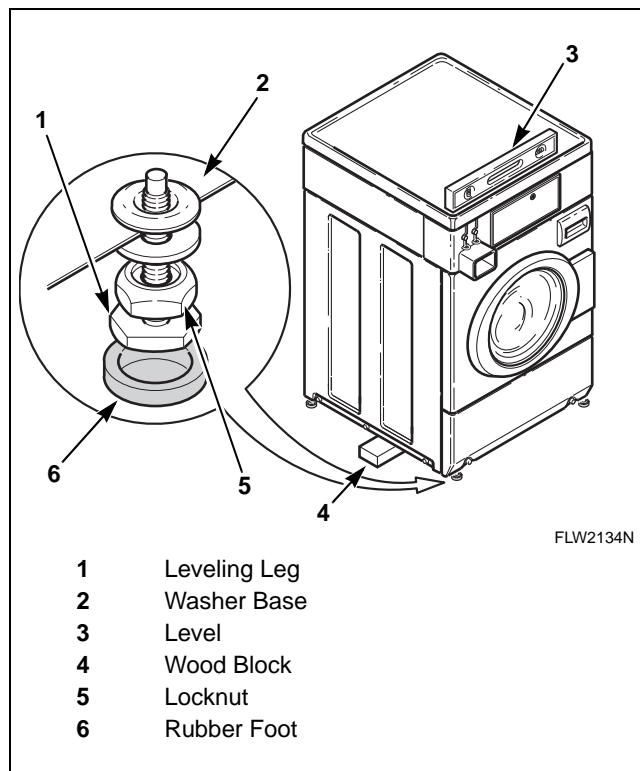

Figure 9
**NOTE: Level must rest on raised portion of top panel. Refer to Figure 9.**
If washer is not level, tilt washer to access the front and rear leveling legs. For easier access to leveling legs, prop up washer with a wooden block. Refer to *Figure 9*. Loosen locknut and adjust legs until the washer is level from side to side and front to back (using a level). Washer should not rock.